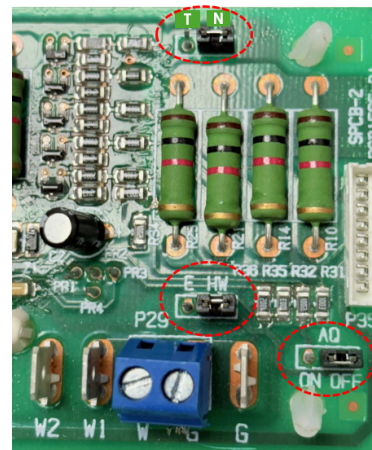

Fig 10.3
Fig.10.3 provides a schematic of the control board present in the unit. The unit ships from the factory with the aquastat jumper (AQ) in the OFF position (right two pins) and the heating selector in the HW position (right two pins). If an aquastat (AQ) is used in the application, the jumper should be changed to the ON position (left two pins). Terminals T and N located on the top right side of the board are not intended for field use and should be left disconnected.